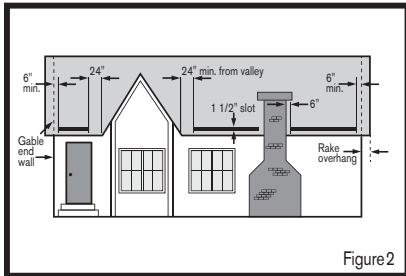

Figure 2
Note: The vent slot opening must stop 6" from chimneys, end walls, vertical walls, or other obstructions, and a minimum of 24" from roof valleys. See Figure 2.
Step 4: Make marks on the roof 6" in from the gable end wall at each rake edge. The marks will identify the ends of the vent slot opening. See Figure 2.